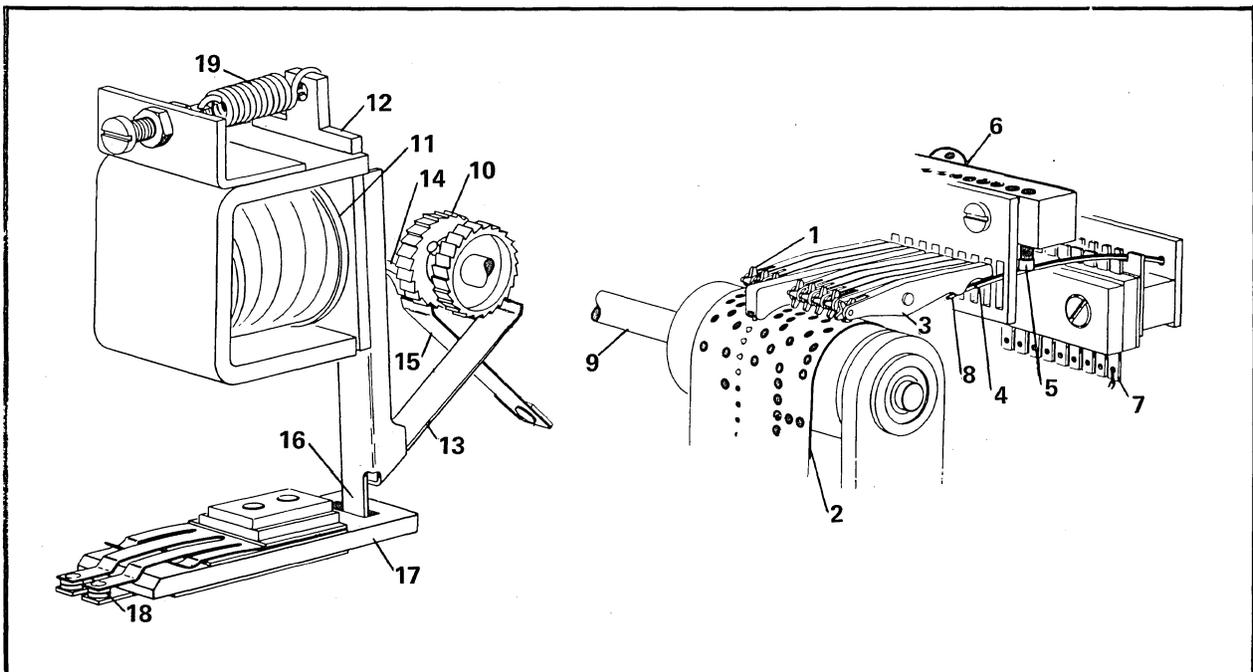

Figure 3-2 Mechanical Operation Diagram
When starwheel (1) senses hole in paper tape (2), the starwheel arm (3) is rocked counterclockwise under the urging of contact wires (4) which limit on lower surface of contact screw (5). See Figure 3-2. Electrical circuit is thus completed from common block (6) to terminal (7). The spring wire (8) urges starwheel arm (3) against arm limiting screw to reduce bounce. Drive